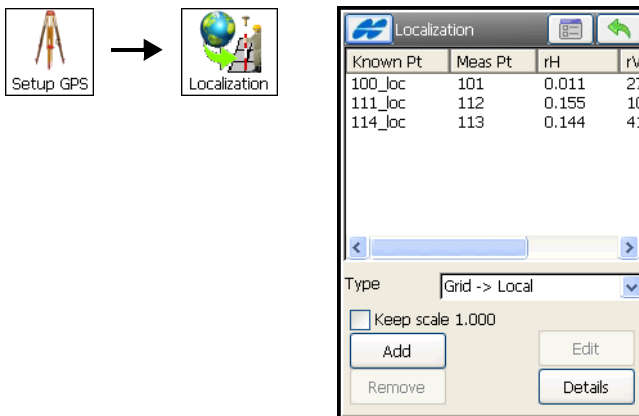

Figure 8-1. Localization Screen
1. Tap **Setup GPS ► Localization**. The *Localization* screen displays the list of pair points which will be initially empty (Figure 8-1 on page 8-3).
2. On the *Localization* screen, select the desired type of localization that TopSURV allows for the given original coordinates (Figure 8-1).
- In the *Known Point* panel, enter a point with the local coordinates in the *Point* field. Check mark the *Use Horizontal* and *Use Vertical* boxes to use this point for horizontal and/or vertical localization. The horizontal and vertical use of any control point can be changed by highlighting the desired line in the **Localization** screen (Figure 8-1 on page 8-3), and then tapping on the header of the H Control or V Control. This toggles the display between “yes” and “no”. Double-tapping on the selecting line opens the **Add Point** screen (Figure 8-2) that also allows changing the horizontal and vertical use.
5. To view the results of the localization, tap the **Details** button on the *Localization* screen (Figure 8-1 on page 8-3).